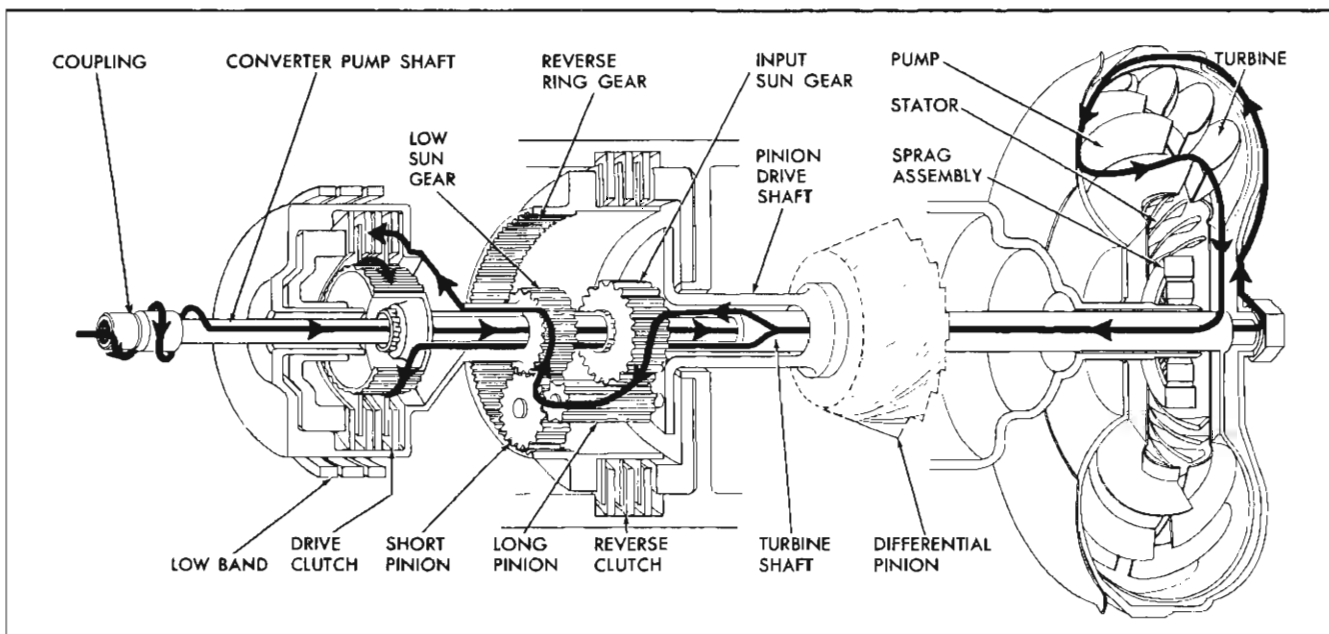

Fig. 7A-3 Power Flow—Low
**POWER FLOW—LOW (FIG. 7A-3)**